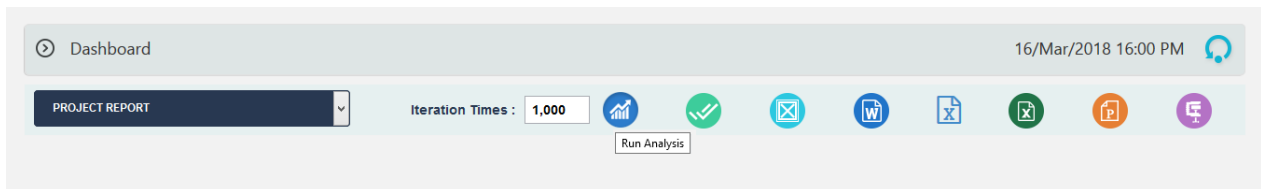

Figure 2.77
2. Click **RUN ANALYSIS** icon to generate the task simulation reports. (Figure 2.77)